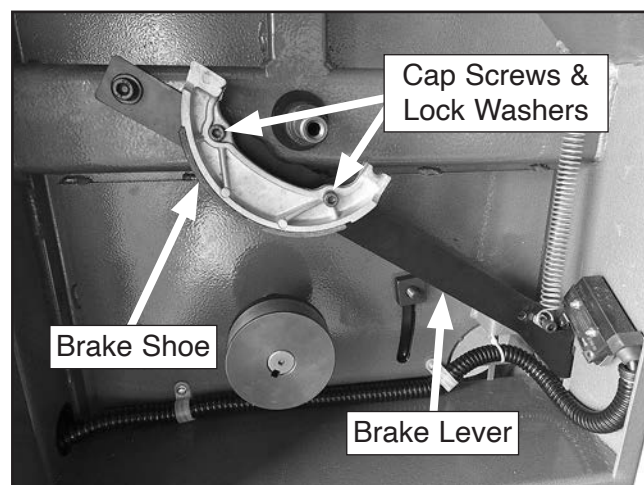

Figure 117. Lower wheel removed to expose brake shoe components.
3. Remove (2) cap screws and lock washers that secure brake shoe to brake lever, then remove brake shoe (see **Figure 117**).